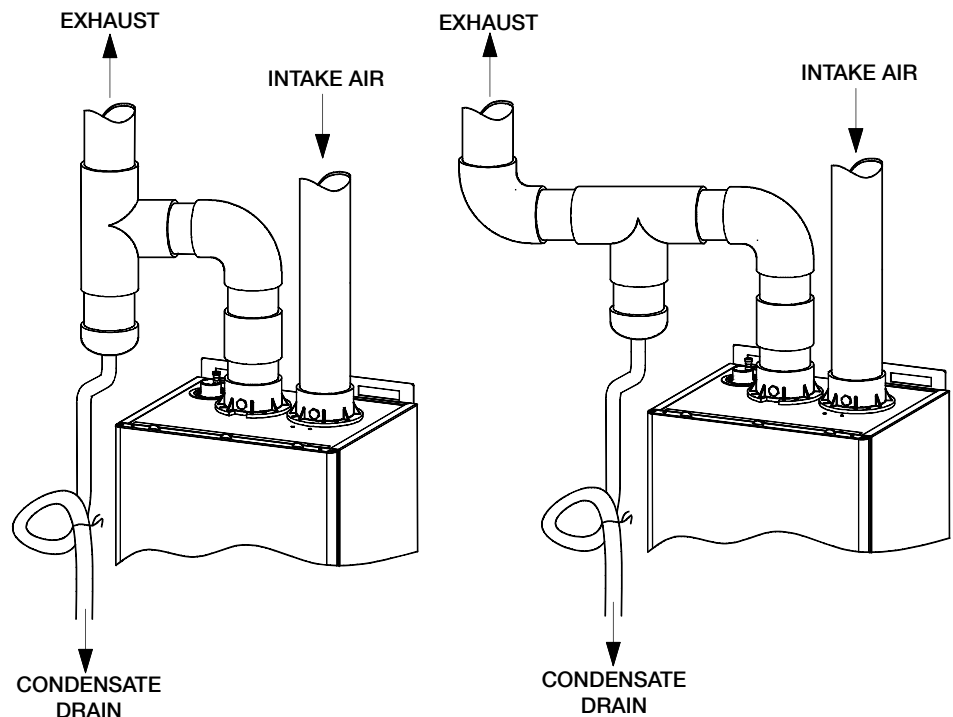

Fig 4.1: Vertical Drain Tee with Trap
**Vertical Roof Termination** - All terminations that end vertically through the roof must have an additional condensate tee installed on the vent pipe before the unit. This condensate line shall include a trap. See Fig. 4.1.